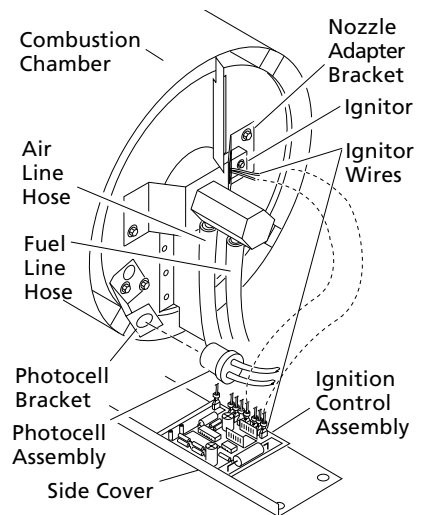

Figure 12 - Disconnecting Ignitor Wires from Ignition Control Assembly
4. Disconnect ignitor wires (black) from ignition control assembly (See Figure 12). Pull the ignitor wires up through the hole in the lower shell.
5. Disconnect fuel line hose and air line hose. Remove photocell from photocell bracket (See Figure 12).